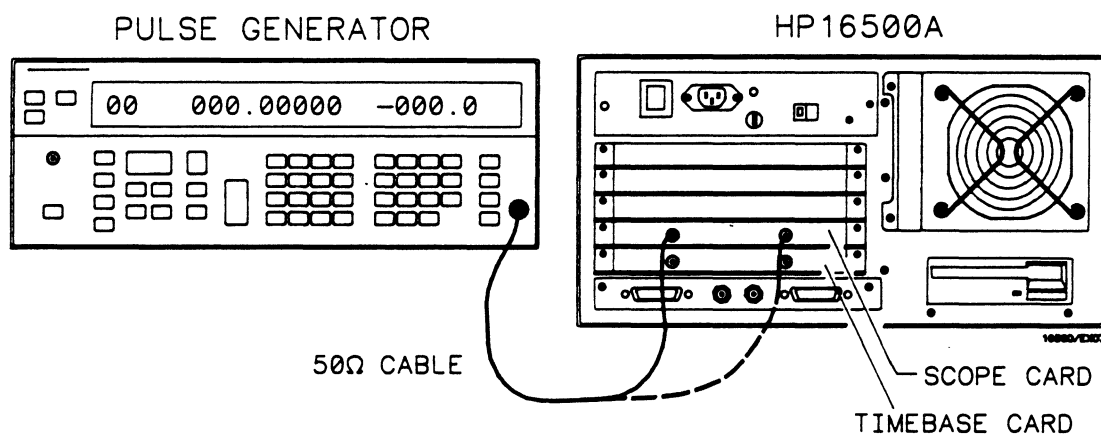

Figure 3-1. Bandwidth Test Equipment Hookup
- b. Connect signal generator to acquisition card as shown in figure 3-1, and set the output for a 200 kHz sine wave with an amplitude of 300 mV.